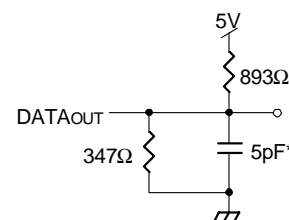

Figure 2. Output Test Load
1. Transition is measured 0mV from Low or High-Impedance voltage with the Output Test Load (Figure 2)
1. Transition is measured 0mV from Low or High-impedance voltage with the Output Test Load (Figure 2).
7. Transition is measured 0mV from Low or High-impedance voltage with the Output Test Load (Figure 2). This parameter is guaranteed but is not production tested.